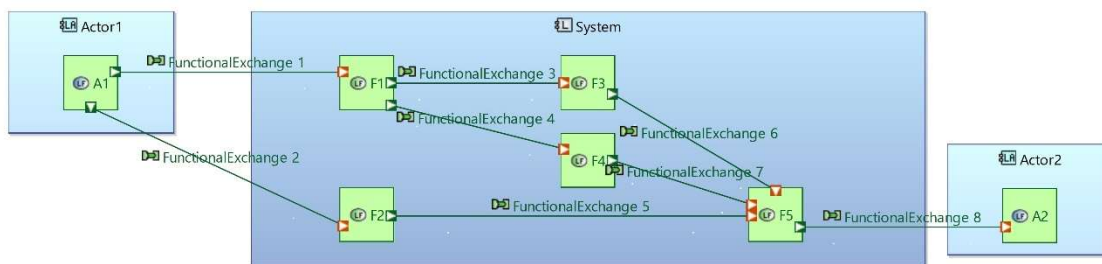

Figure 2 Example Logical Architecture Diagram
An example is shown in Figure 2.
- Select all Functional Exchanges as shown in Figure 2, using Ctrl + Left Mouse Button.